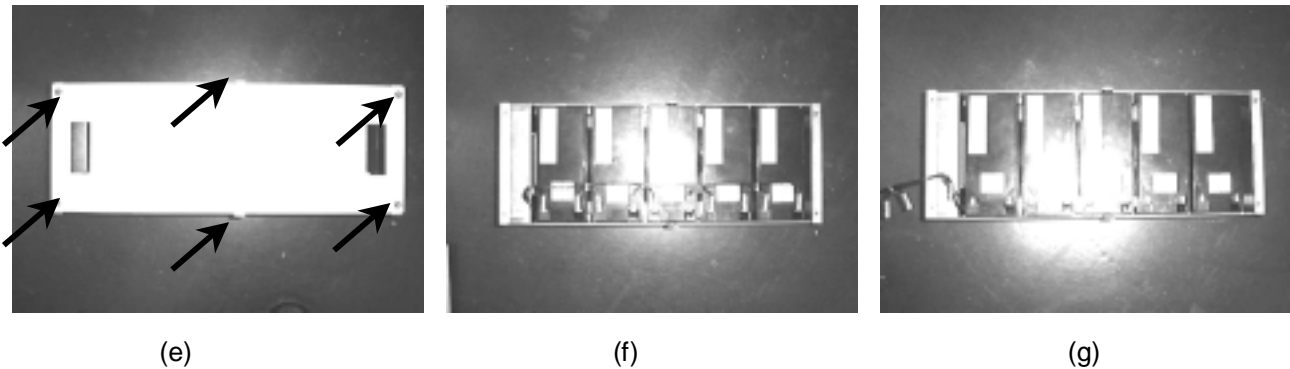

Fig. 2 Procedure of battery exchange
3. Unscrew the hexagon socket head cap screws on both side (Fig. 2 (a)), and remove the FPD box.
7. Detach the PC holder and remove the PC. Remove the LAN adapter that connects the PC and cable reel at the same time. Fig. 2 (c)
8. Remove the six screws as shown in Fig. 2 (c), pull out the DR assy.
9. Referring to Fig. 2 (d), remove the two screws shown with white arrow (α), loosen the two screws shown with white arrow (β), and detach the connector shown with the black arrow. Then, lift the Link ASSY to remove.
10. Disconnect the wires connected to the terminal block in the order (from No.1 to No.8) of the numbers shown in Fig. 2 (d). Be sure to disconnect them in order first from (-) terminal of BAT 2 (refer to Fig. 2 (d)).
11. Take out the four battery ASSY (BAT1, BAT2, BAT3, BAT4) from the main unit, and open the cover by unscrewing the flat countersunk head screw shown in Fig. 2 (e), and disconnect the wiring for the battery. Take out all the batteries.
15. Mount the battery ASSY to the original position. Pay attention to the battery numbers and positions. (Refer to Fig. 2 (d).)
Connect the wires to the terminal block in the reverse order (from No.8 to No.1) of the numbers shown in Fig. 2 (d). Be sure to connect them in order first from (+) terminal of BAT 1 (refer to Fig. 2 (d)).
17. Write the date of battery replacement in the Battery Replacement Label. (Refer to Fig. 2 for the location of the label.)